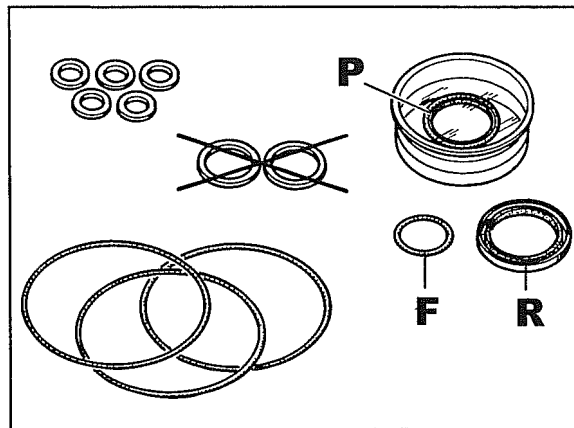

Fig. 63
6. When reinstalling the power steering assembly, change all the seal rings and washers as shown in Fig. 63.